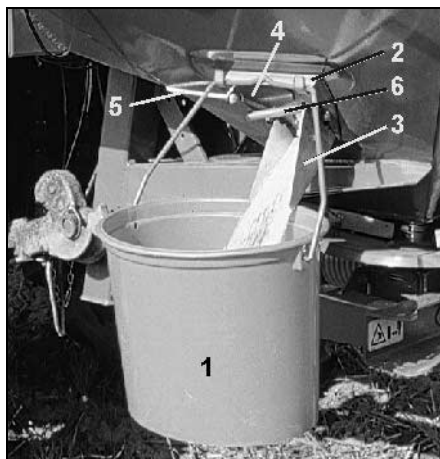

Fig. 34
- **Carefully drive test distance from beginning- to end under field conditions, i. e. with intended, constant operational speed.** Open entirely (pull until stop) the lateral slide (Fig. 34/1) of the delivery chute by means of the rope (Fig. 34/2) **exactly on the test distance beginning mark and shut off at the end mark** (by letting the rope go the spring (Fig. 34/3) pulls the lateral slide into the shut position).